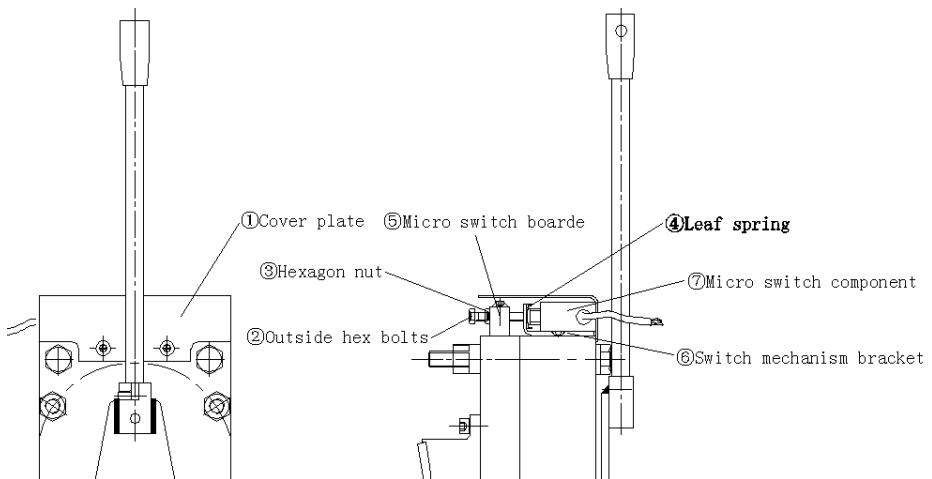

Figure 24
The micro switch mechanism of the brake is composed of ①Cover plate,②Outside hex bolts,③Hexagon nut,④Leaf spring,⑤Micro switch board,⑥Switch mechanism bracket,⑦Micro switch component(shown as figure 24) .The adjustment of the adjustment of the components of the brake switch mechanism, After the component is provided with a micro switch component and a fixed switch mechanism, The reliable operation of the micro switch can be ensured by adjusting the position of the six angle bolt to change the size of the stroke of the six angle bolt. Loosen the fixing screw and remove the ①cover plate before adjusting the micro switch mechanism.